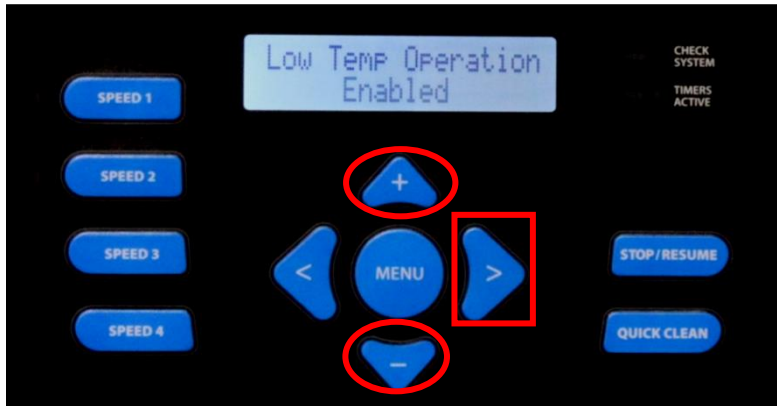
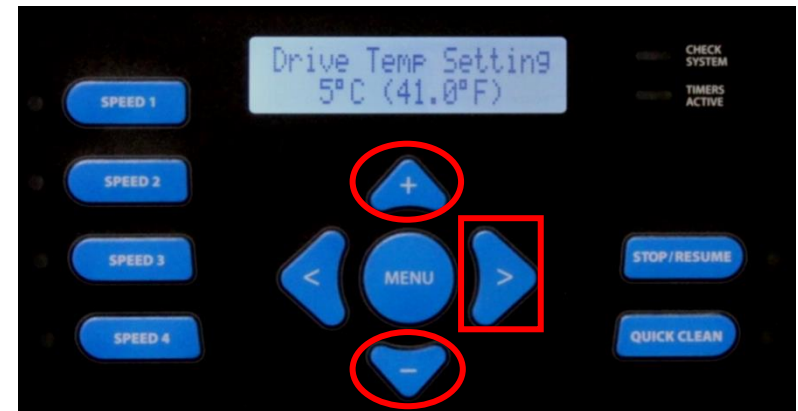

Figure 38
Figure 39
15. If the pump is not being remotely controlled, you will be asked to enable or disable the Low Temp Operation (Default is Disabled) by pressing the  &  buttons (fig 38). Enabling this feature will turn on the TriStar VS, if stopped, to protect the drive . If enabled, you will be asked to set the temperature to activate the Low Temp Operation (fig 39). Press the  button to continue.